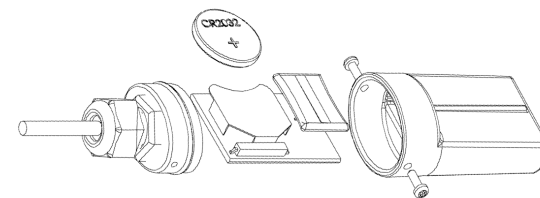

Figure 4: Battery Replacement
- See Figure 4. Remove the two screws that secure the end cap to the case and remove the cap. The circuit board is attached to the cap.